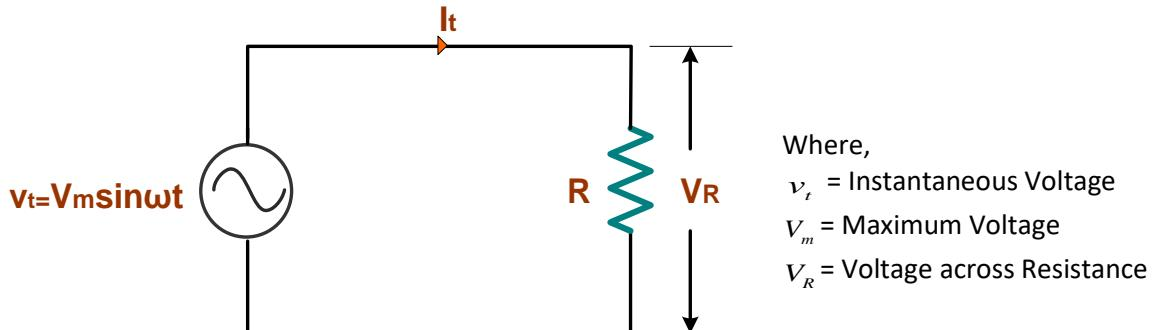

Figure 2.13 Pure Resistor Connected to AC Supply
- The Fig. 2.13 shows an AC circuit consisting of a pure resistor to which an alternating voltage $v_t = V_m \sin \omega t$ is applied.
- As shown in the Fig. 2.13 voltage source